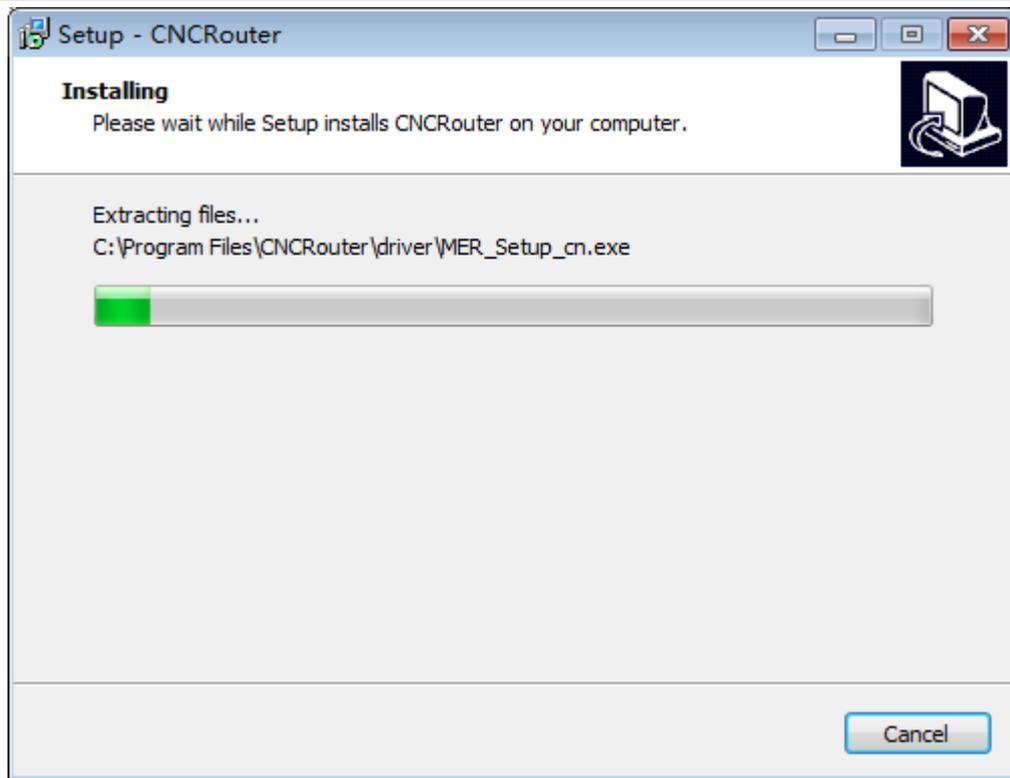

Figure 2.2-5
(7) Click the install button, cnc-router computer software starts installation, will show the installation progress, if you need to cancel the installation, can click the cancel button. As shown in figure 2.2-5: